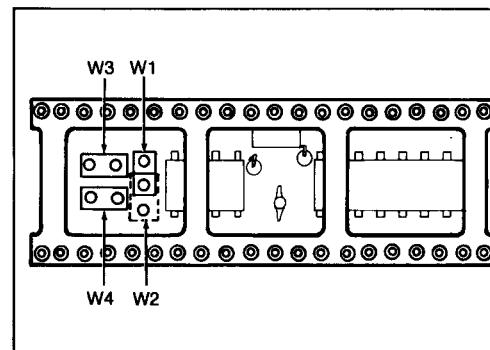

Figure 1. UUT Adapter Jumper Locations
3. Refer to Figure 1. Using tweezers or needle-nose pliers, position the jumpers on the top of the circuit board as indicated in Table 1.